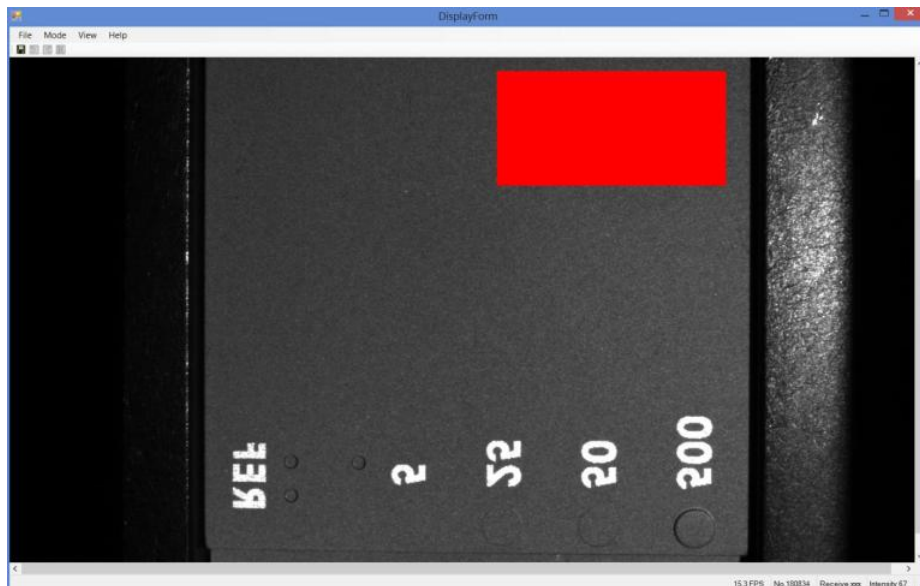

Figure 56 Display Form Dialog Box
57. A Dialog box with live View will be illustrated as below Figure 56.
62. Close the “Display Form Dialog Box” as Figure 56.